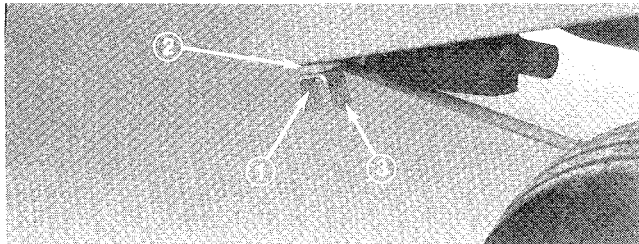

Figure 4
3. Remove capscrew and flangenut securing front engine support to frame. Secure Belly Shield hanger and engine support to frame with $3/8 \times 1-1/4$ capscrew and flangenut. Repeat procedure on opposite side of machine (Fig. 4). Discard $3/8'' \times 1''$ long capscrew removed (gas units only).